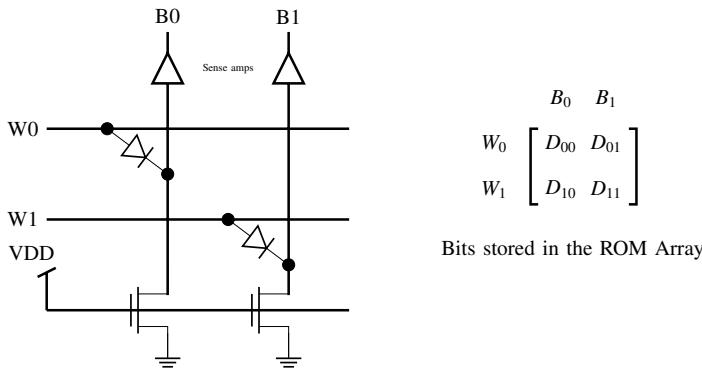

Fig. 3.28: 2×2 ROM array
45. A 2×2 ROM array is built with the help of diodes as shown in the circuit below in Fig. 3.28. Here W_0 and W_1 are signals that select the word lines and B_0 and B_1 are signals that are output of the sense amps based on the stored data corresponding to the bit lines during the read operation.